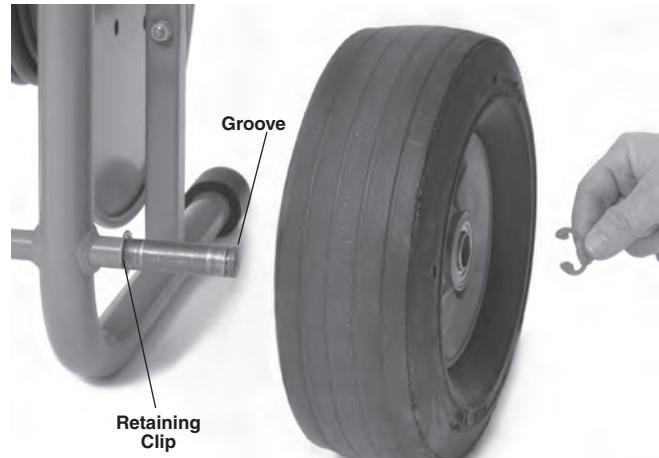

Figure 5 – Assembly of the KJ-2200
1. Install retaining clip into inner groove on each end of axle. (See Figure 5.)